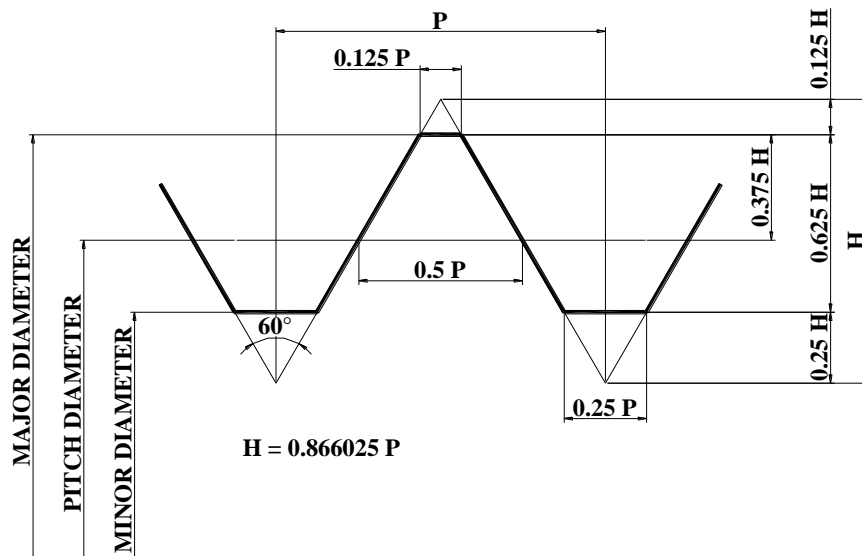

Figure T5.1: Metric Thread
1. Draw the metric thread, as shown in *Figure T5.1*, taking suitable value of pitch.